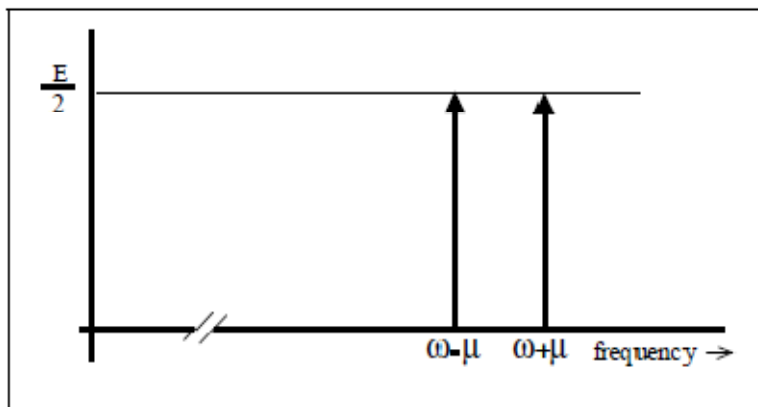

Figure 1: Spectral components
Equation (3) shows that the product is represented by two new signals, one on the sum frequency  $(\omega + \mu)$ , and one on the difference frequency  $(\omega - \mu)$  - see Figure 1.